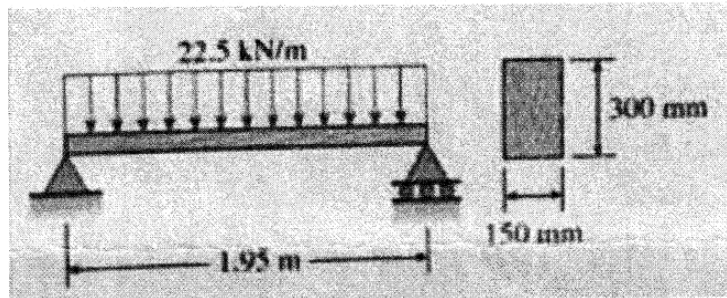

Figure 4
- (b) Calculate the maximum shear stress and maximum bending stress in the wooden beam shown in Figure 4 carrying a uniform load of 22.5 kN/m (including the self-weight). Assume that the beam is simply supported at the ends, length of the beam = 1.95 m, and the cross section is rectangular with width = 150 mm and height = 300 mm.